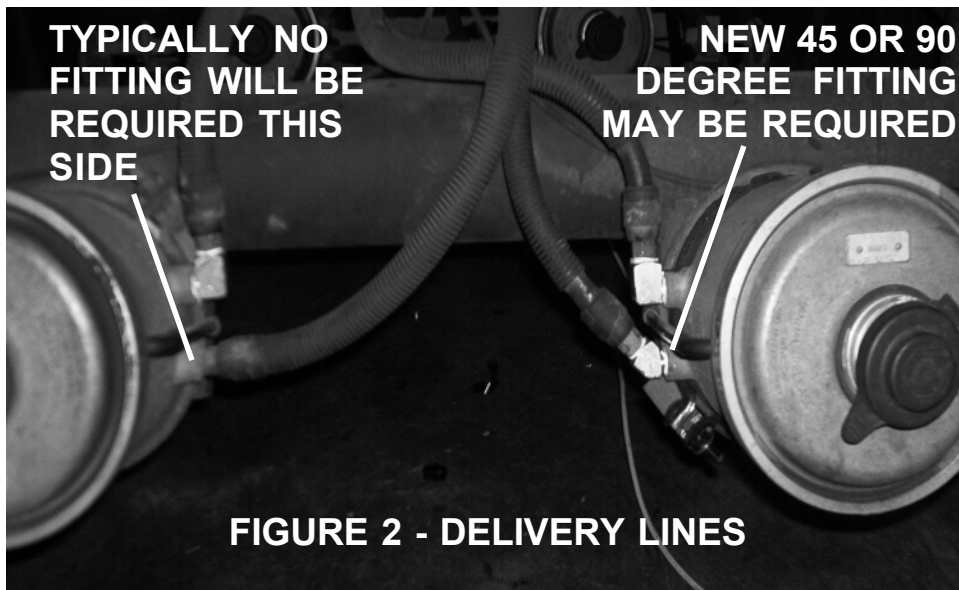

FIGURE 2 - DELIVERY LINES
- A 90 or 45 degree fitting may be needed to allow the delivery lines to loosely reach the new ABS unit without being too tight or dragging on the forward axle. See Figure 2.